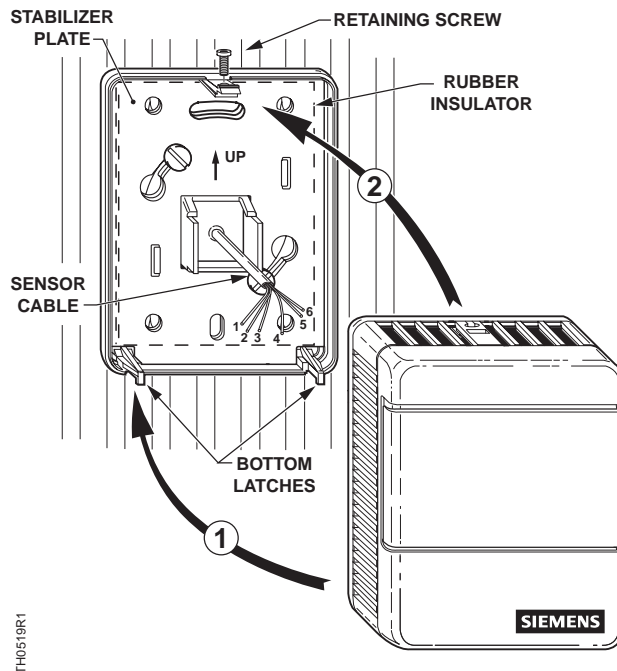

Figure 2. Typical Drywall Mounting (No Rough-in).
1. Mark the center (cable) hole and mounting hole locations using the sensor base plate as a template. See Figure 2.
5. Pull at least 3 inches (75 mm) of the cable through the mounting hardware in the order shown in Figure 2.
12. Tighten the sensor front retaining screw. See Figure 2.